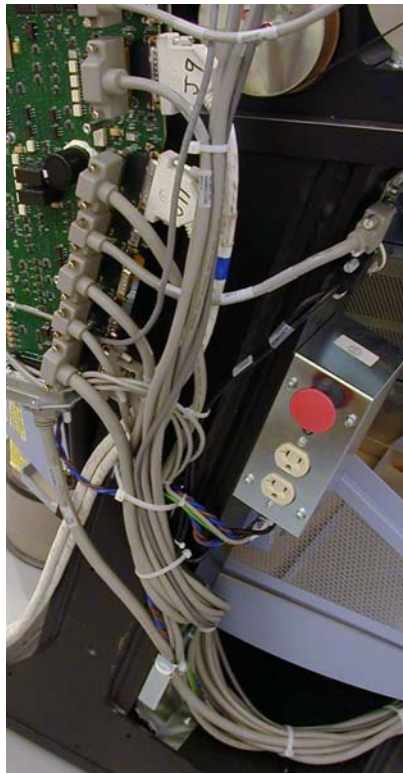

Figure 2-8 Install Cable 2355108
- 3.) Install cable 2355108 to J27. See Figure 2-8.